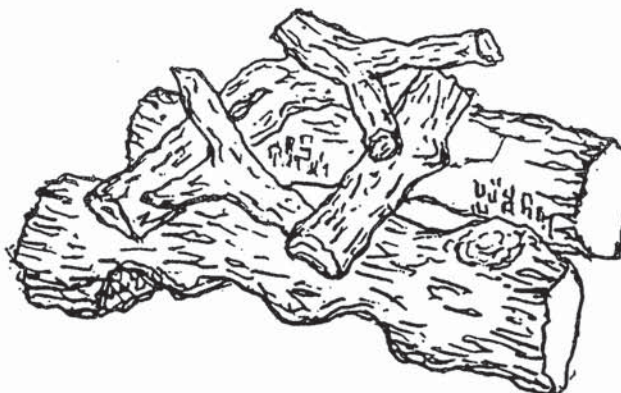

FIGURE 1
- A. Remove the gas log set and refractory pieces and check for damage. **DO NOT** install damaged components. See Figure 1. The refractory pieces and logs are fragile—use care when handling.